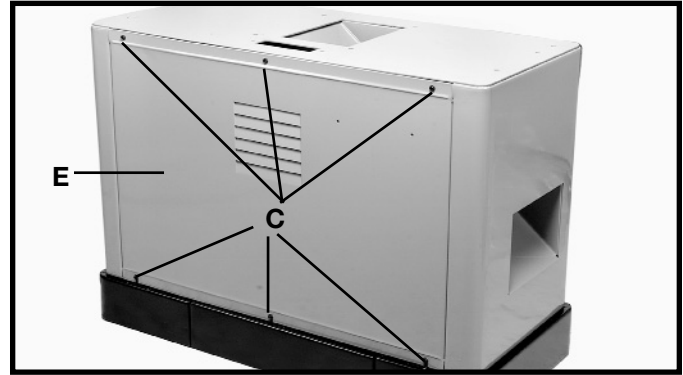
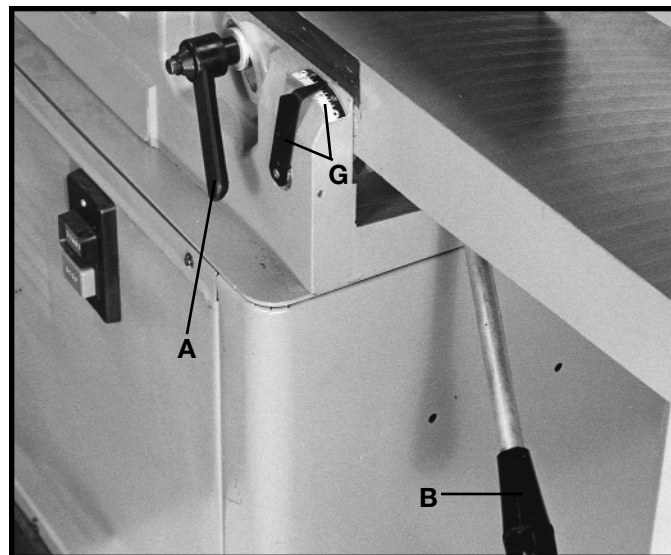

Fig. 4A
Fig. 19
2. Remove the six screws (C) Fig. 4A. Then remove back panel (E) from the stand.
To raise or lower the infeed table (see Fig. 4A), loosen table lock handle (A) Fig. 19, and move the table raising and lowering hand lever (B) up or down until the table is at the desired position and tighten table lock handle (A). **NOTE:** The table lock handle (A) can be repositioned by pulling out the handle and repositioning it on the serrated nut located underneath the handle.
The depth of cut of the infeed table (position of table in relationship with the cutting circle) can be read with the pointer and scale (G) Fig. 19.